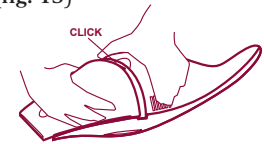

Fig. 13
- Reposition the container/tank by placing it in the groove and pressing it, until you hear the “click”. (fig. 13)